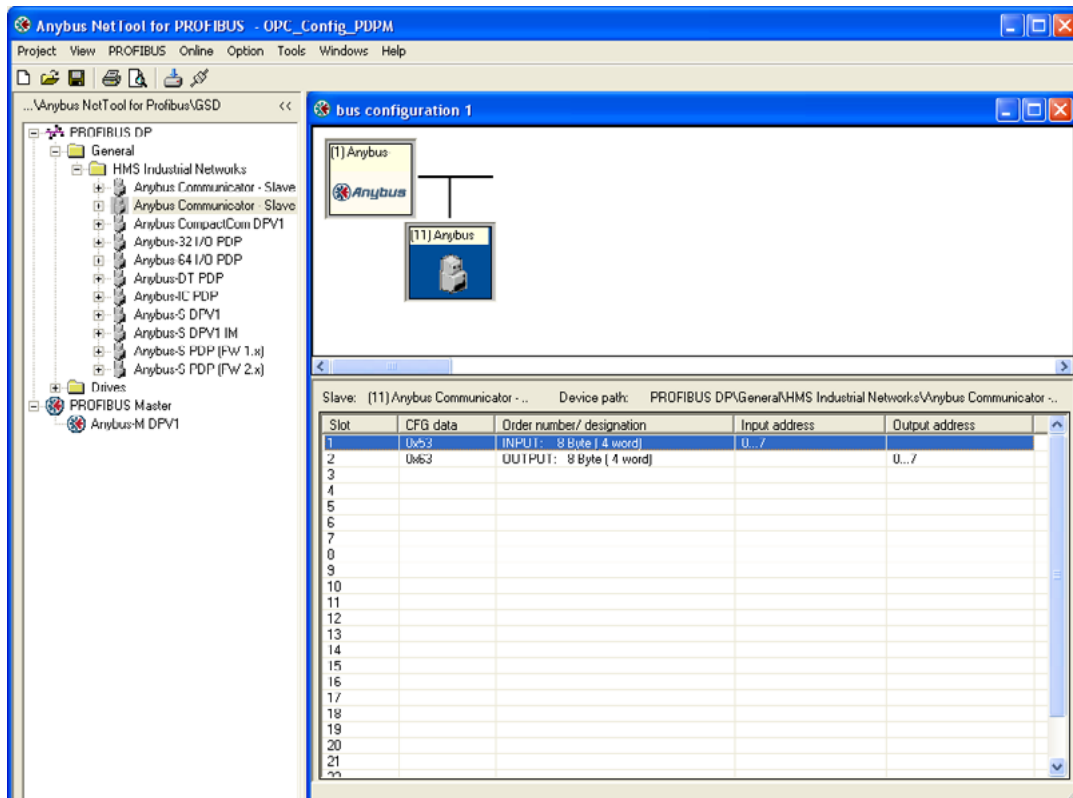

Figure 2 Slave I/O size
- Right click on the list (begins with *Slot*) below the PROFIBUS network, see Figure 2 on page 10.